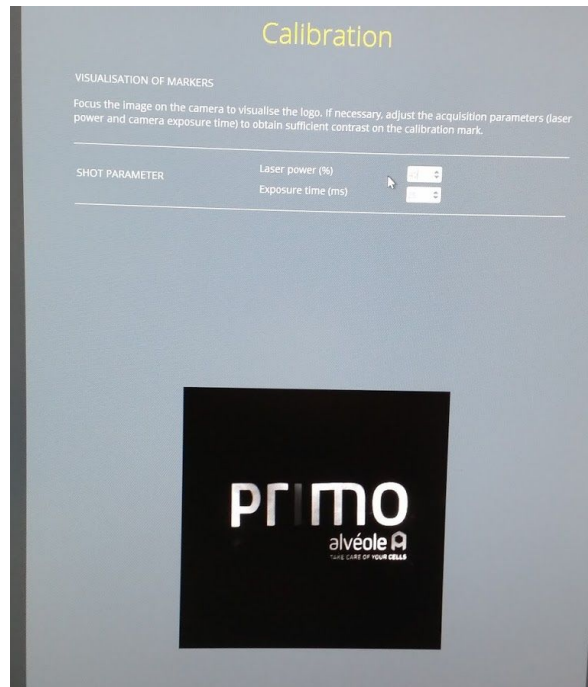

Figure 8. A screenshot from the Leonardo software during the calibration process.
4. Menu -> Plugins -> Leonardo: the Leonardo software should open and will guide you through the calibration process as shown in Figure 8 below.
- b. In the black square shown in Figure 8, the white PRIMO logo may not be readily visible. Often this is because the 20x objective needs to be